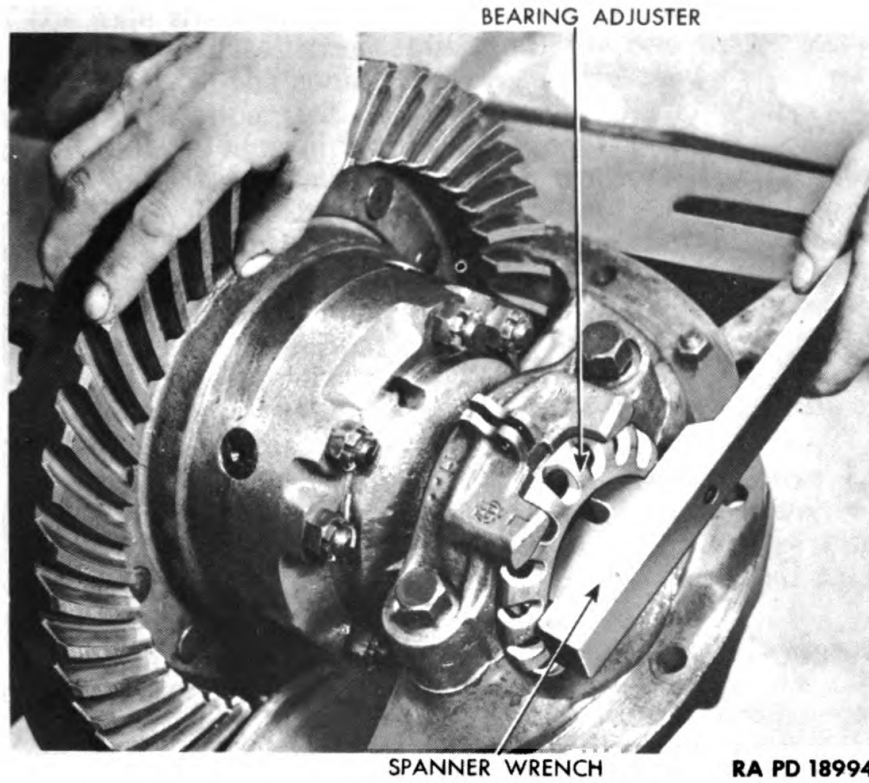

Figure 72 — Adjusting Differential Side Bearing
d. **Install Differential in Carrier.** Place differential in carrier, install carrier bearing cups, place carrier bearing caps in position according to marking made at time of removal, and screw bearing adjusters into place. Install, but do not tighten, carrier bearing cap bolts. Adjust differential position through movement of adjusters to provide approximately 0.010- to 0.012-inch backlash between bevel drive gear and bevel drive pinion. Use side bearing adjuster for adjustment (fig. 72).